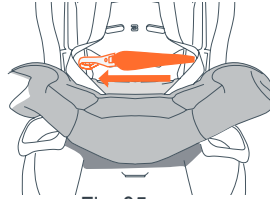

Fig. 35a
4. Route UAS lower connectors through forward facing belt path (Fig. 35a).